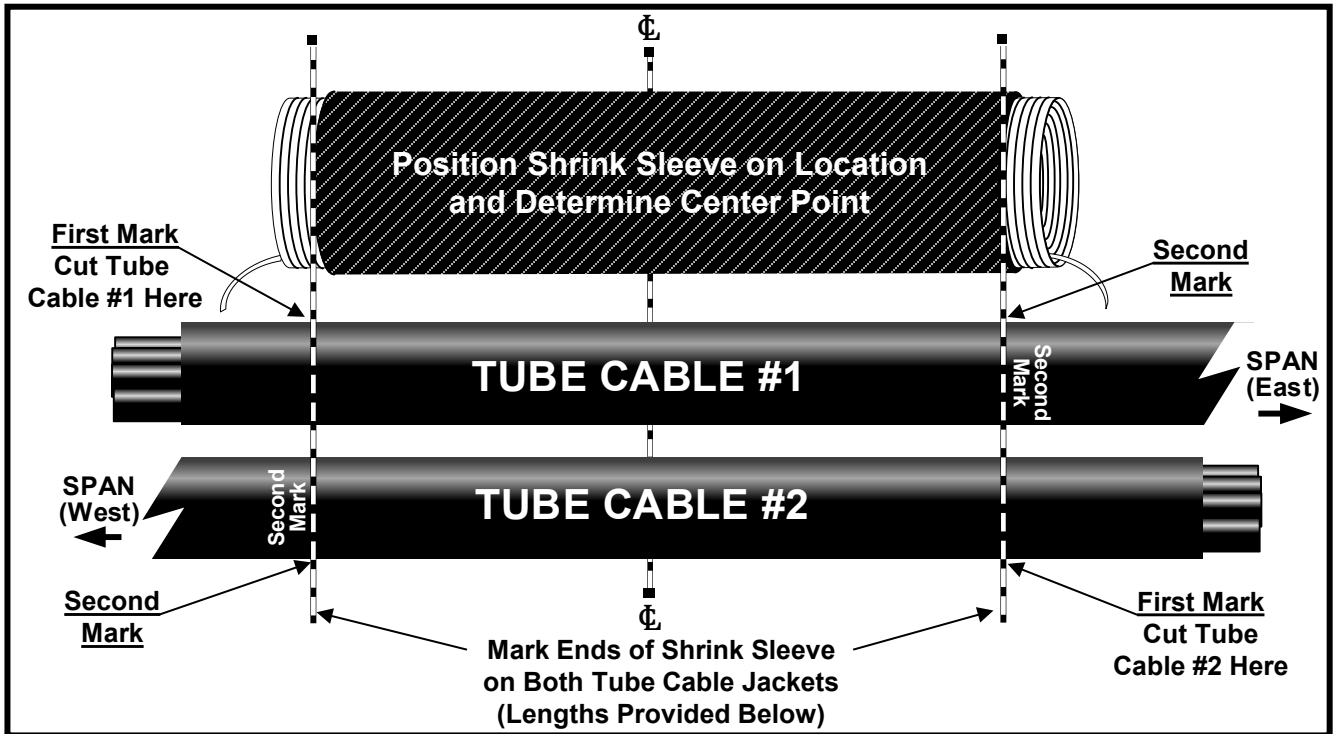

Figure 2 - Preparing Tube Cables
6.4 Mark Both Tube Cable jackets to coincide with left and right ends of Shrink Sleeve. **See Fig. 2.**